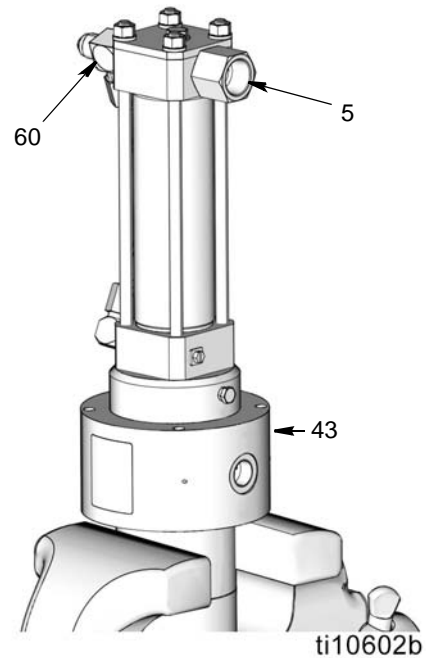

FIG. 4
4. Disconnect fluid outlet hose (C) (Typical Installation, page 4) from displacement pump.
5. Slowly loosen hydraulic supply fitting (60) and return fitting (5) (FIG. 4). Remove hoses.